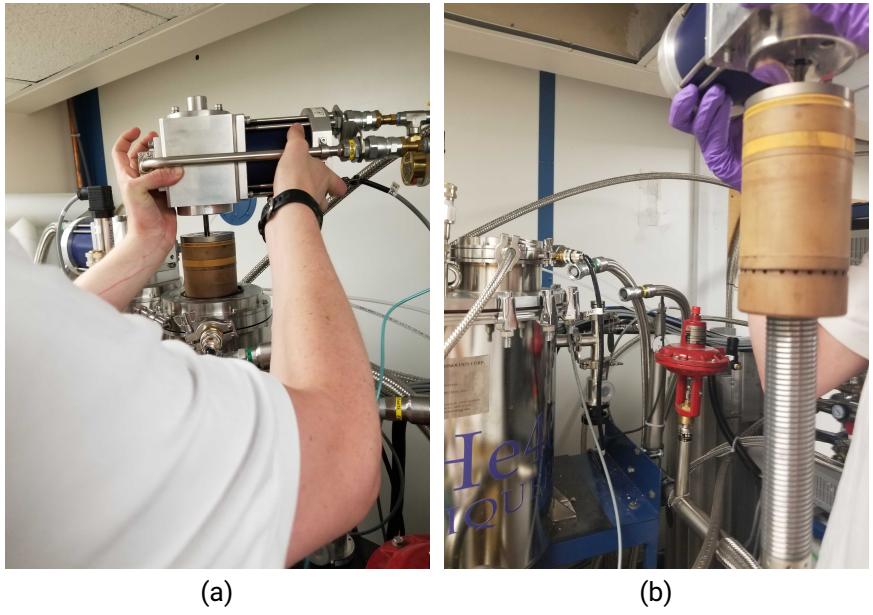

Figure 7: Lifting the displacer out of the cylinder
2. Starting with the currently installed cold head, lift from the motor to remove the displacer and motor assembly from the cylinder (Figure 7, gently placing the assembly on the table and wiping down with a dust-free cloth. Inspect for any damage and document.